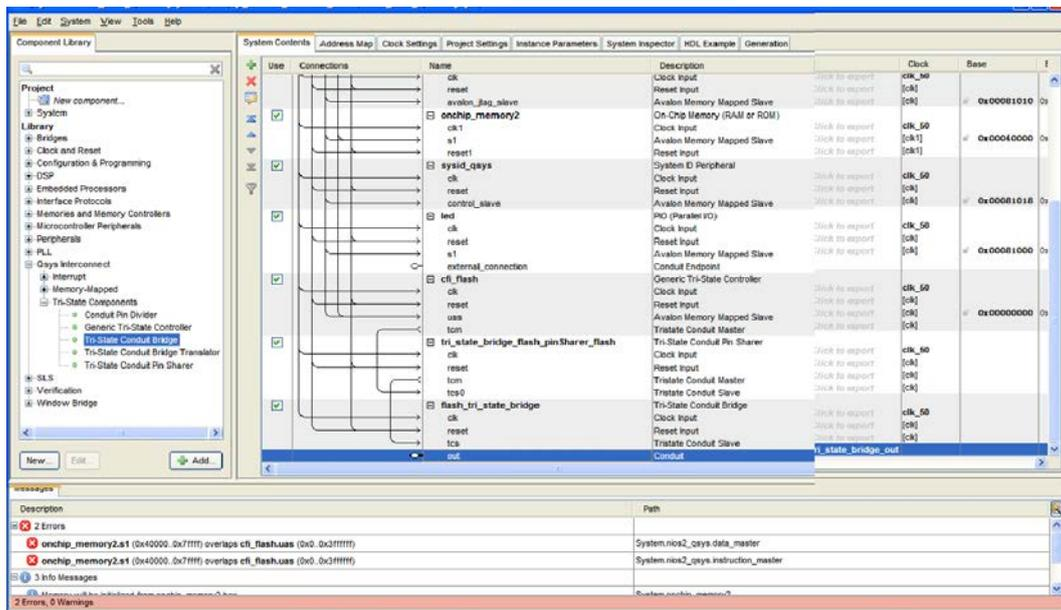

Figure 3-19 Export out and Rename
13. Export **out** and Rename it to **flash_tri_state_bridge_out** as shown in Figure 3-19.